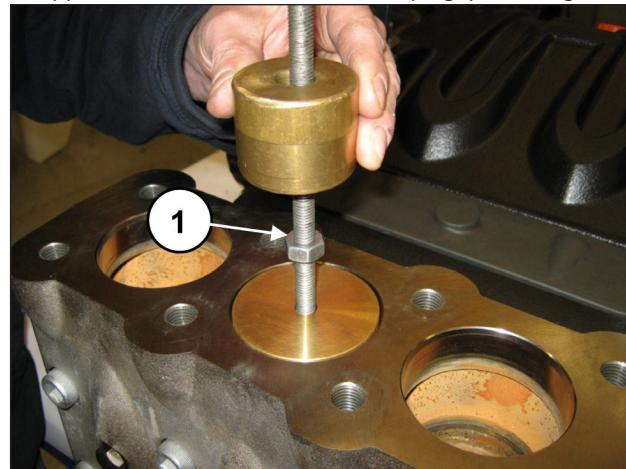

Fig. 98
Extract the valve plug with the use of an extractor hammer to be applied on the M10 hole of the valve plug (pos. ①, Fig. 98).